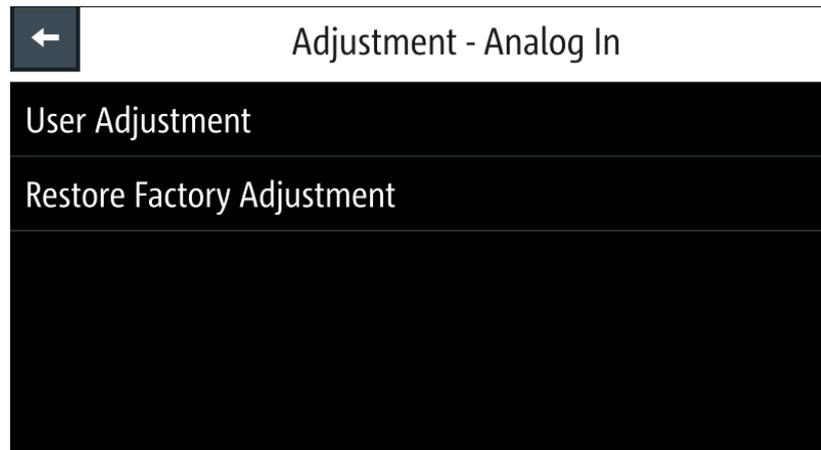

Figure 6-65: Adjustment -Analog In dialog
- To proceed analog in adjustment, select "User Adjustment" in Figure 6-65. The R&S NGP800 displays the "ANALOG IN ADJUSTMENT" wizard to guide the adjustment procedures.